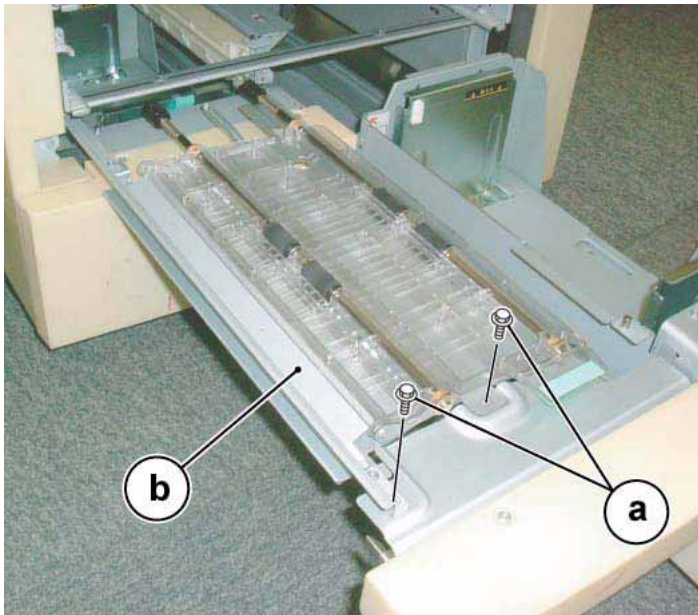

Figure 1 Removing the Tray 4 Transport Assembly
5. Remove the Tray 4 Transport Assembly. Figure 1
- a. Remove the screws (2).